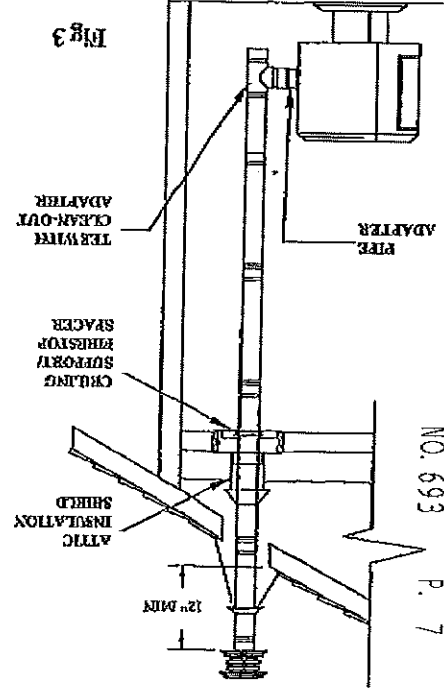

Fig 3
**3.** If the flue exits on back of stove and an interior installation is desired (Figure 3):